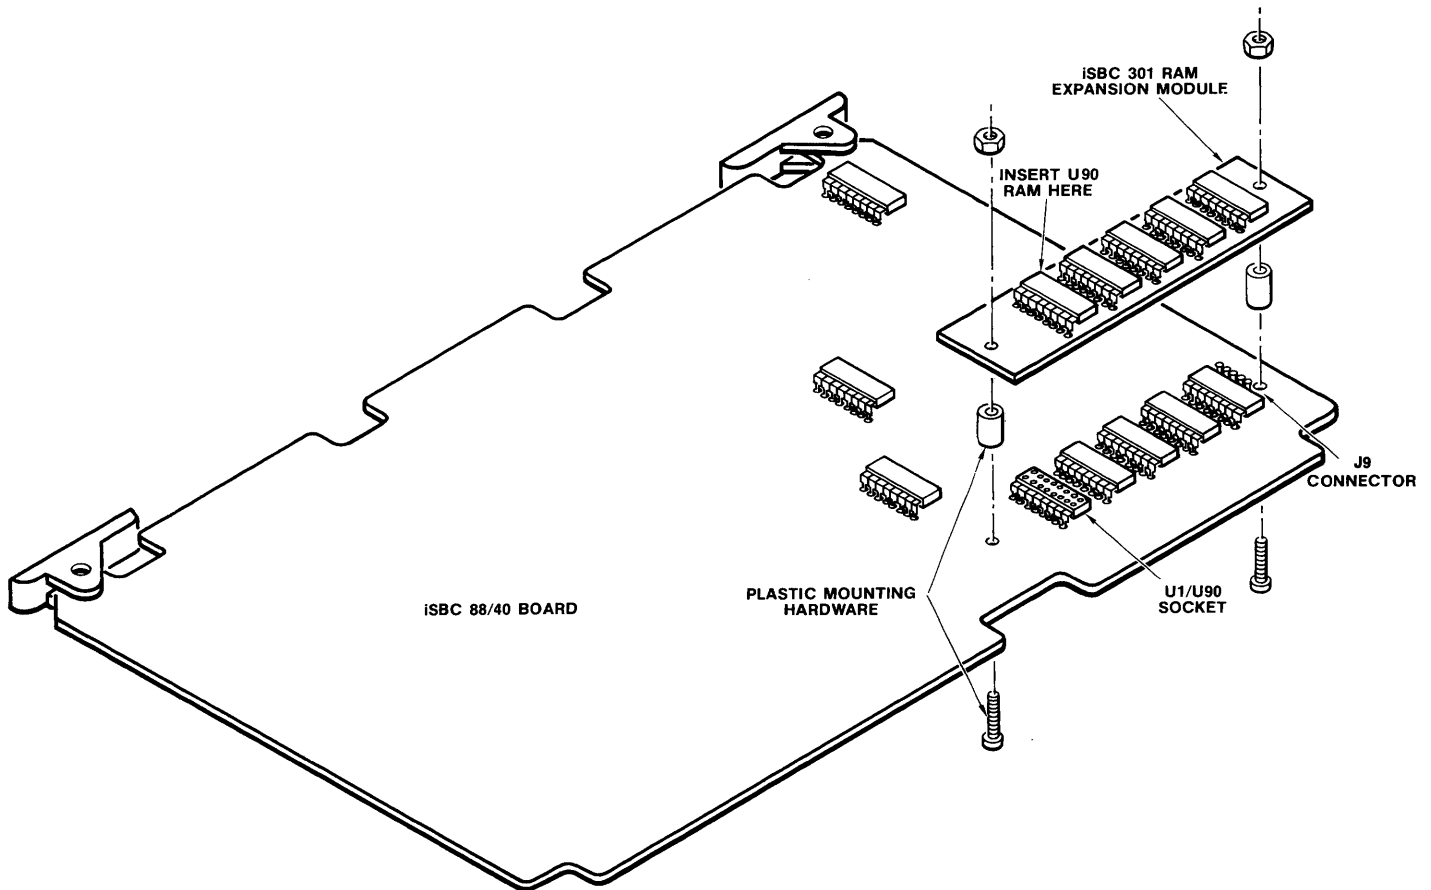

Figure 2-7. iSBC 301 Multimodule RAM Orientation
6. Hold the iSBC 88/40 board on edge and install the two screws (reference figure 2-7), from the solder side.
8. Install the iSBC 301 Multimodule RAM board on the iSBC 88/40 board in the location shown in figure 2-7.